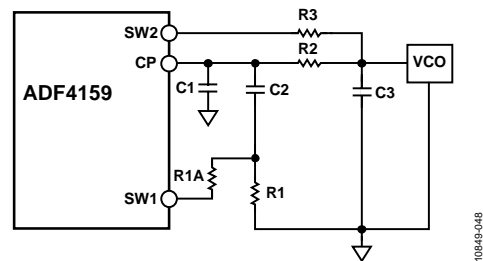

Figure 54. Fast Lock Loop Filter Topology 2
- Connect an extra resistor (R1A) directly from SW1 (see Figure 54). The extra resistor must be selected such that the parallel combination of an extra resistor and the damping resistor (R1) is reduced to  $\frac{1}{4}$  of the original value of R1.